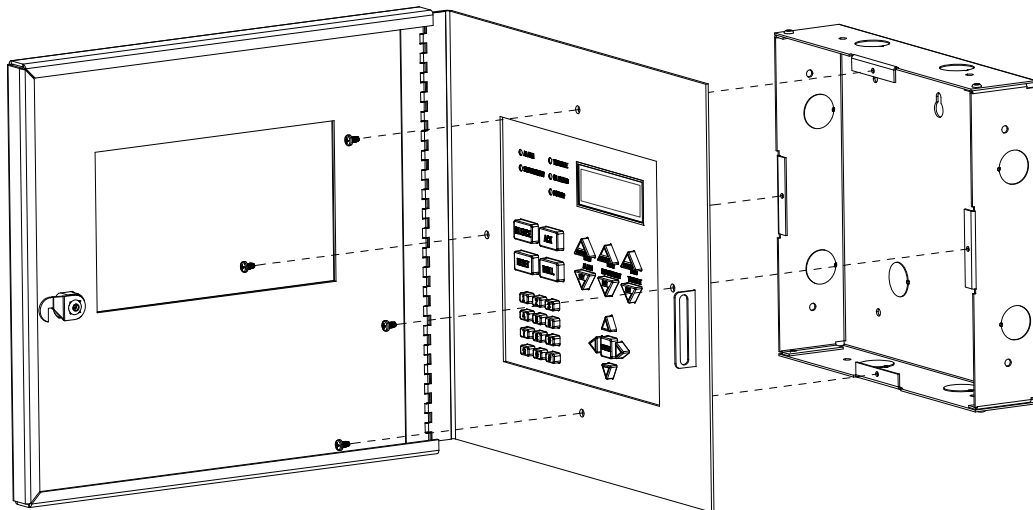

Figure 4.14 Attaching Annunciator/Door Assembly to Backbox
9. Attach the door assembly to the backbox using the screws provided. Refer to Figure 4.14.